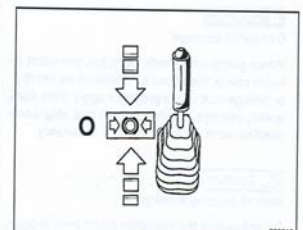

Fig. 39
- Move the travel lever (Fig. 39) to position "0". The machine is automatically braked by the hydrostatic drive.